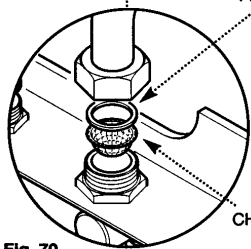

Fig. 70
**13.23 Central Heating Return Filter (Fig. 70)**